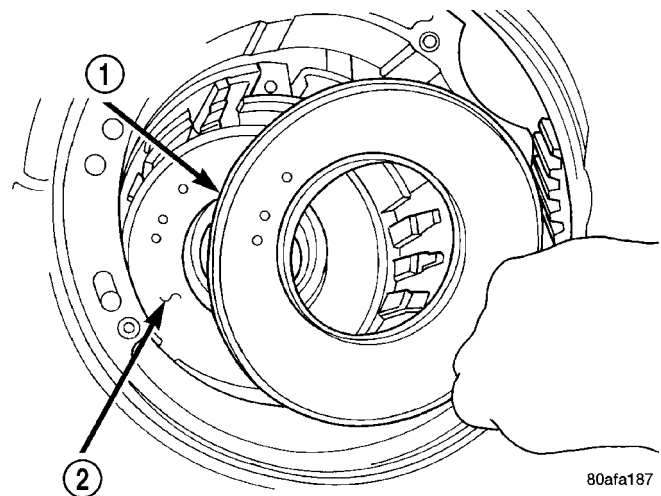

Fig. 81 Remove Piston Retainer
(64) Remove low/reverse piston retainer (Fig. 81).